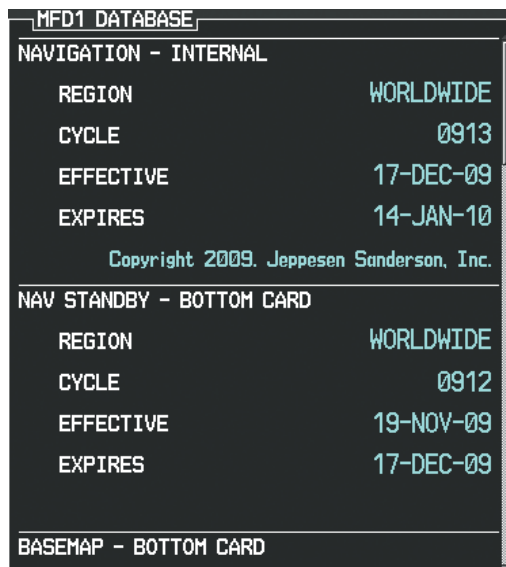

Figure B-9 Check Database Cycle Number
- 11) Press the Display Database Selection Softkey to show active navigation database information for each display (**MFD1 DB, PFD1 DB**). Verify the correct active navigation database cycle information is shown for each display. Figure B-9 shows the active navigation database information for the MFD.